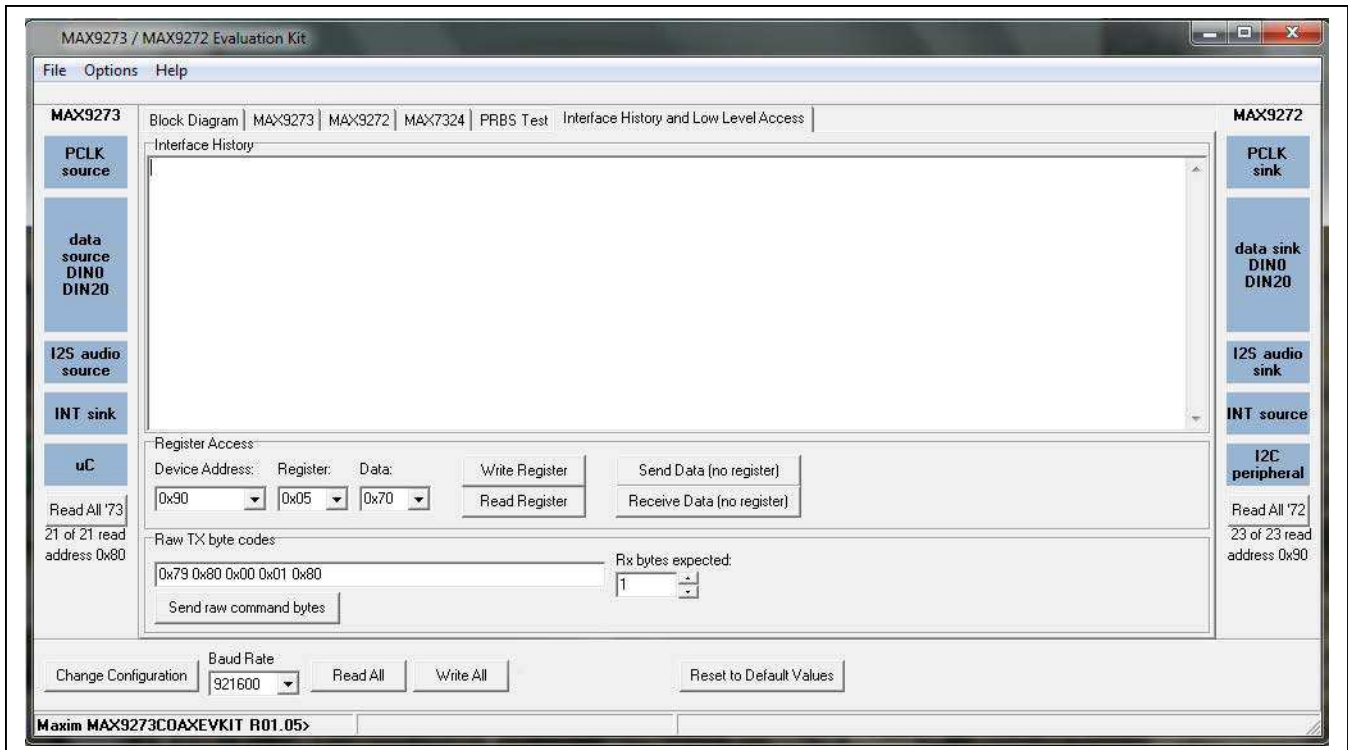

Figure 7. MAX9273/MAX9272 EV Kit Software Connect Window
- 11) Start the MAX9273 coax EV kit software by opening its icon in the **Start | Programs | Maxim Evkit Software | MAX9271** menu. The EV kit software configuration window appears, as shown in Figure 7.
The **Change Configuration** button brings up the **Software Connect** window (Figure 7), allowing the software GUI to select which side of the link the USB cable should be plugged into and the **Jumper Setting** window (Figure 8) to help in configuring the boards. Controlling from the MAX9272 side requires changing some jumper settings, as described in this window. If the MAX9273 and MAX9272 device addresses have been previously changed from their factory power-on-reset (POR) values, the new addresses must be specified in the **Software Connect** window to allow register access.